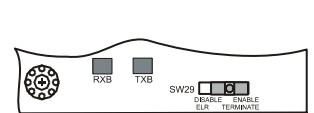

Figure 5.12 SW29 on ACM-24AT or ACM-48A
- For ACM-24AT or ACM-48A, set SW29 to "ENABLE" to install the built-in end-of-line resistor (see Figure 5.12).